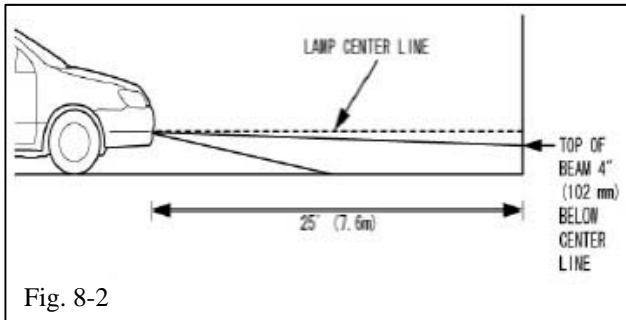

Fig. 8-2
(1) Position the vehicle on a flat surface at a distance of 25 feet (7.6m) from the fog light to a wall (Fig. 8-2).
(2) Measure the distance from the center of the lamp to the ground and mark off the same height on the wall. This is the fog light centerline (Fig. 8-2).
(3) Turn the fog lights on and adjust them so that the top of the beam (high intensity portion) falls 4 inches (102 mm) below the mark on the wall (the fog light centerline) (Fig. 8-2).